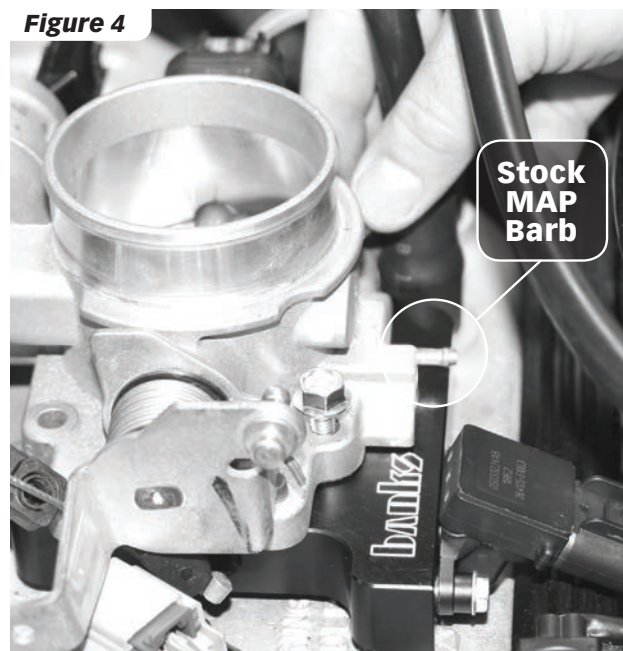

Figure 4
6. Connect blow-off valve (BOV) reference hose (P/N 94122) to stock MAP sensor barb on throttle body using silver spring band clamp (P/N 92775). **See Figure 4**